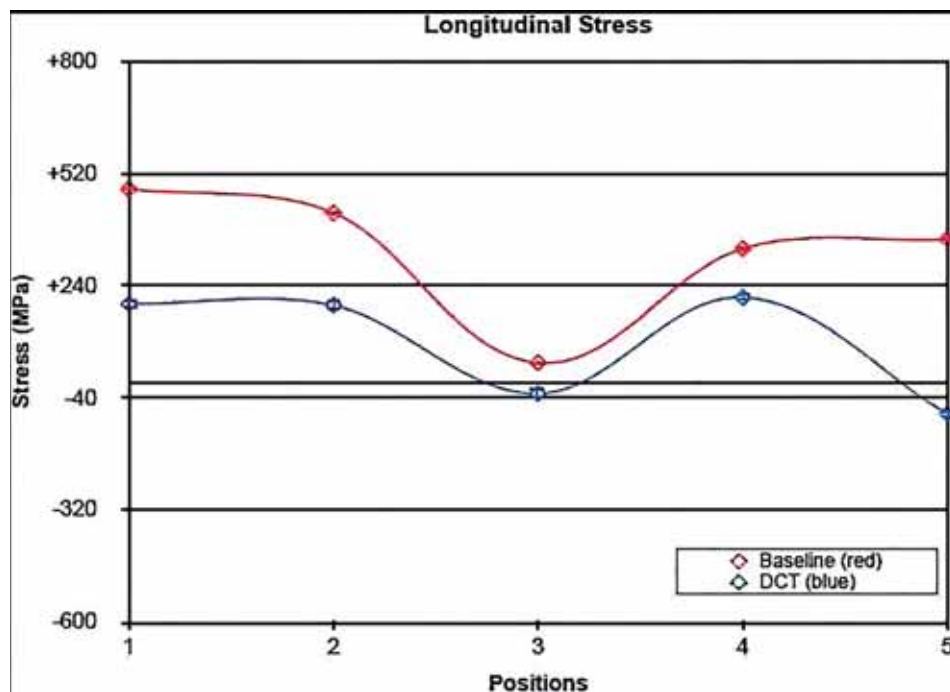
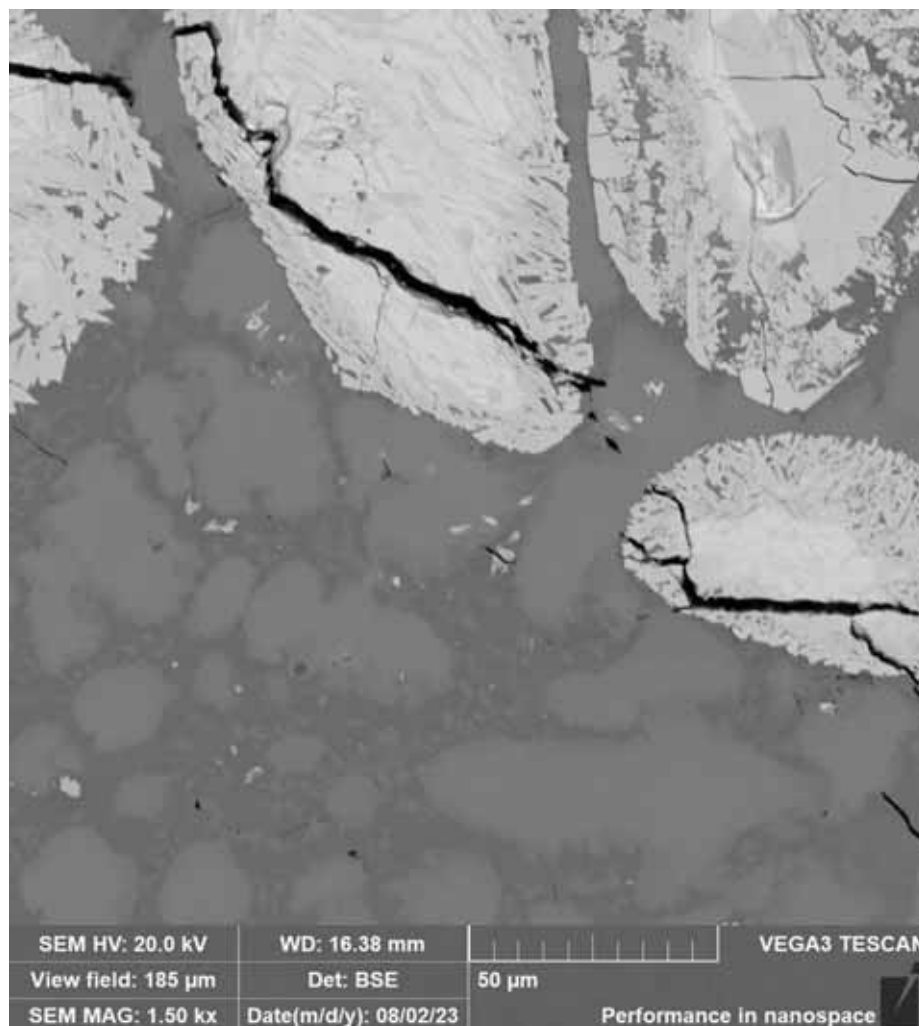

Figure 4: Residual stress test of 13% Mn using XRD. Credit: Jack Cahn
Figure 5: Crack healing between two carbides. Credit: University of Alberta
**Reduction in residual stress.** Deep cryogenic temperatures relieve tensile stresses caused by machining, fabrication, heat treatment and welding (Figure 4). DCT achieves greater microstructural stress balance than SCT by reducing atomic-level vacancies. More pronounced than SCT, DCT also induces beneficial compressive stress, helping to heal fatigue cracks that nucleate at grain boundaries, reduce MnS and oxide inclusions and disrupt transgranular or carbide-precipitated crack initiation or propagation (Figure 5).